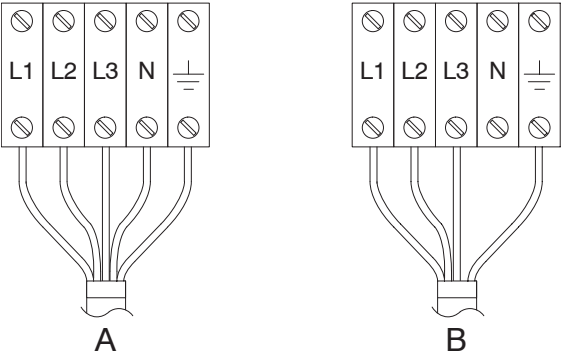

Figure 3-6: Electrical service connections at TB12 (with ground wire shown)
- 6. Route the electrical service line through the strain relief (3), determine the length of cable required to reach the power terminal block, and cut the cable.
- 9. Refer to Table 3-3 and see Figure 3-6. Connect the remaining wires of the electrical service line to TB12.